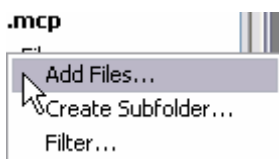

Figure 17: Adding the Source File to the Project
Step 13: Add the .c file to your project by right clicking on the “Source Files” folder in the .mcw window and selecting “Add Files...” (Figure 17). If you do not add the file to your project, you will not be able to build it. If this error occurs initially, you did not add the file correctly.